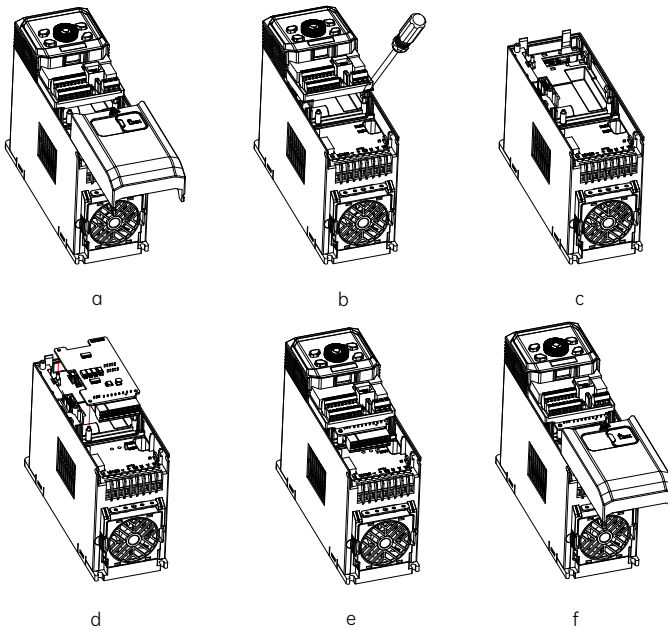

Fig. 4 Position 1 - PG card installation steps
- (1) When the drive is powered off, press the granulated part on the middle-upper of the lower cover, slide it down firmly to take down the cover, as shown in Fig. 4-a.
- (2) Use a straight screwdriver to pry open the two snap-fit joints between the control box and the drive, and then remove the control box upwards, as shown in Fig. 4-b and c.
- (3) Install the PG card: hold the PG card with its terminal block downwards, then align the three round holes on the PG card with the location column, and press down to buckle the PG card firmly into the four snap-fit joints, as shown in Fig. 4-d.
- (4) After the PG card is installed, align the control box with the snap-fit joints, and press down the control box to make its lower part firmly buckled, then slide the lower cover to lock it on the drive, as shown in Fig. 4-e and f.